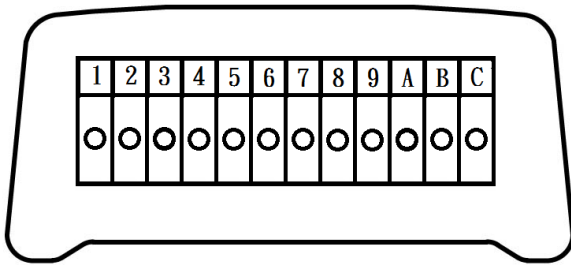
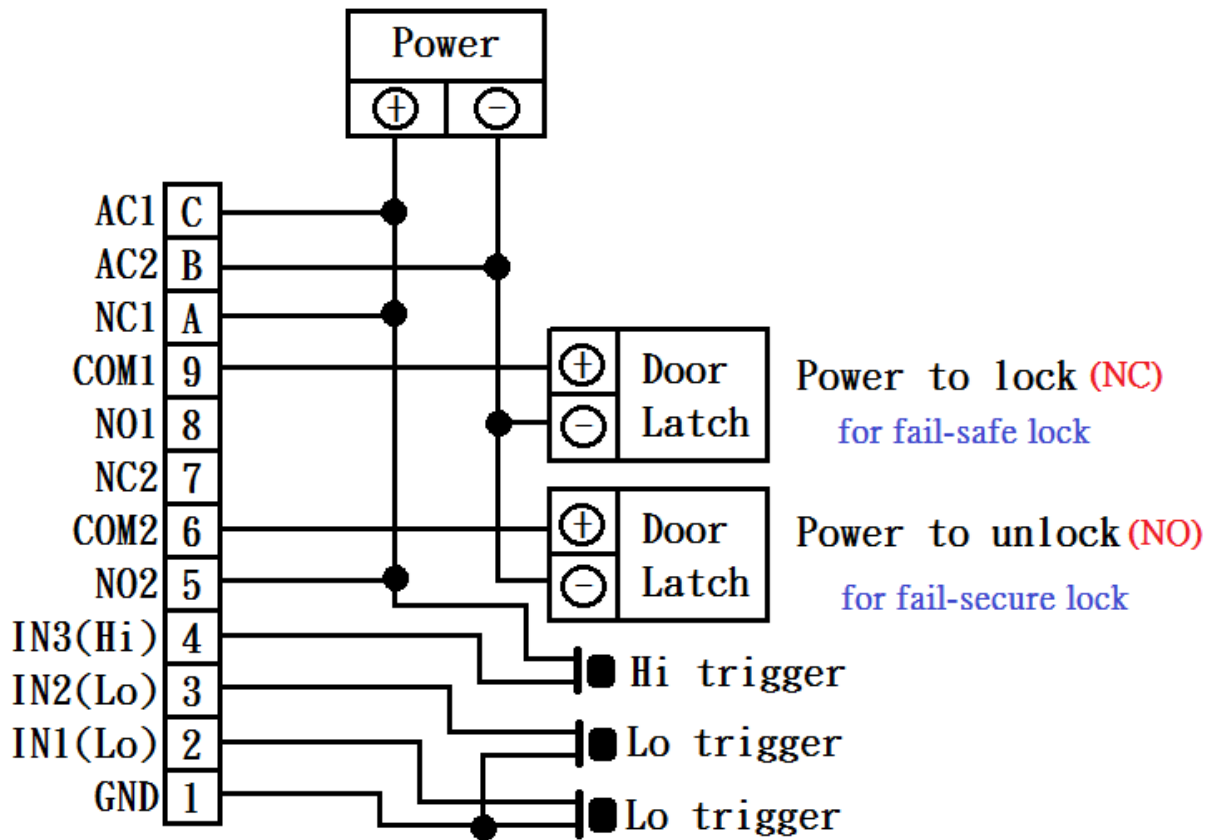

Fig2
Fig3
5.3 WIRING DIGRAM (Fig2 & Fig3)